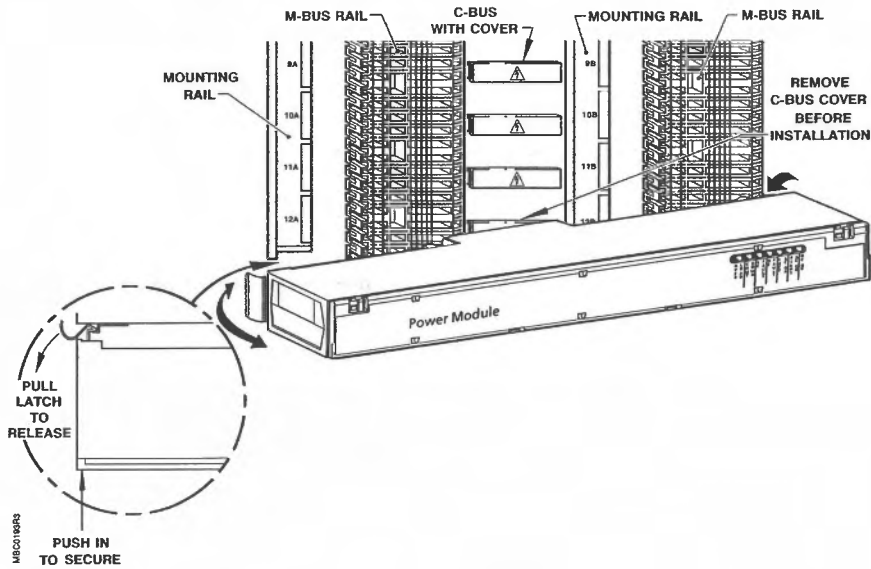

Figure 3. Installation.
3. Remove the C-Bus cover from the lowest available slot and discard (refer to Figure 3).
7. Align the Power Module (refer to Figure 3) with the slot designation marked on the mounting rails (for example: 1A and 1B).
9. Push on the free end of the Power Module so that its C-Bus card-edge and M-Bus connector mate with the C-Bus connector and M-Bus rail (refer to Figure 3). You will hear a "click" when the Power Module is properly attached to the mounting rail.
10. If the Power Module needs repositioning, pull the Power Module latch. Then pull the Power Module forward from the C-Bus connector (refer to Figure 3) and repeat Steps 7 through 9.